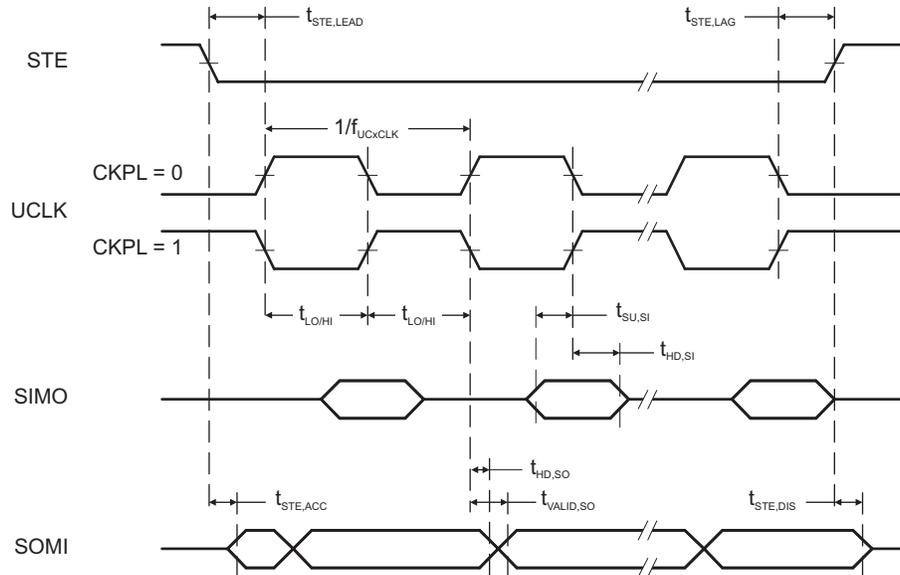
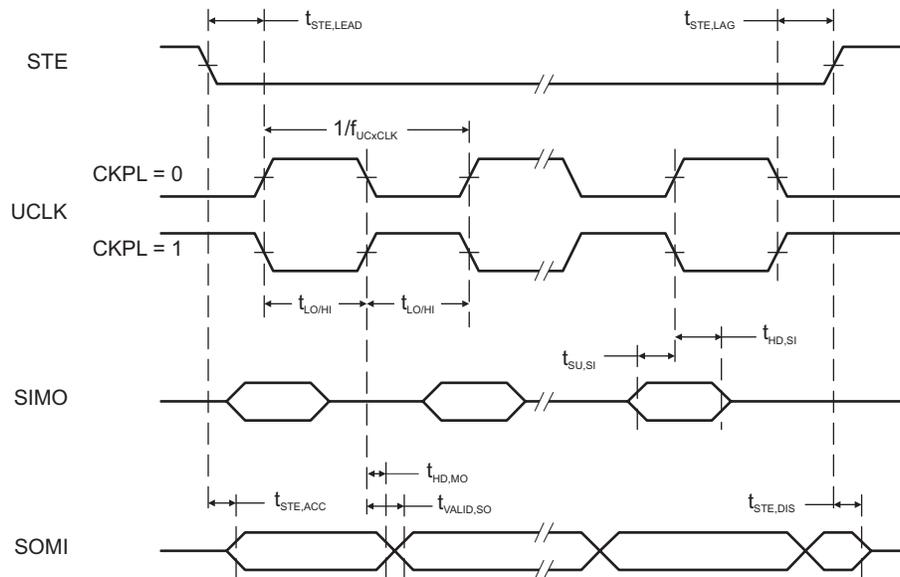

Figure 5-9. SPI Slave Mode, CKPH = 0
Figure 5-10. SPI Slave Mode, CKPH = 1
(see Figure 5-9 and Figure 5-10)
(2) Specifies the time to drive the next valid data to the SOMI output after the output changing UCLK clock edge. See the timing diagrams in Figure 5-9 and Figure 5-10.
(3) Specifies how long data on the SOMI output is valid after the output changing UCLK clock edge. See the timing diagrams in Figure 5-9 and Figure 5-10.